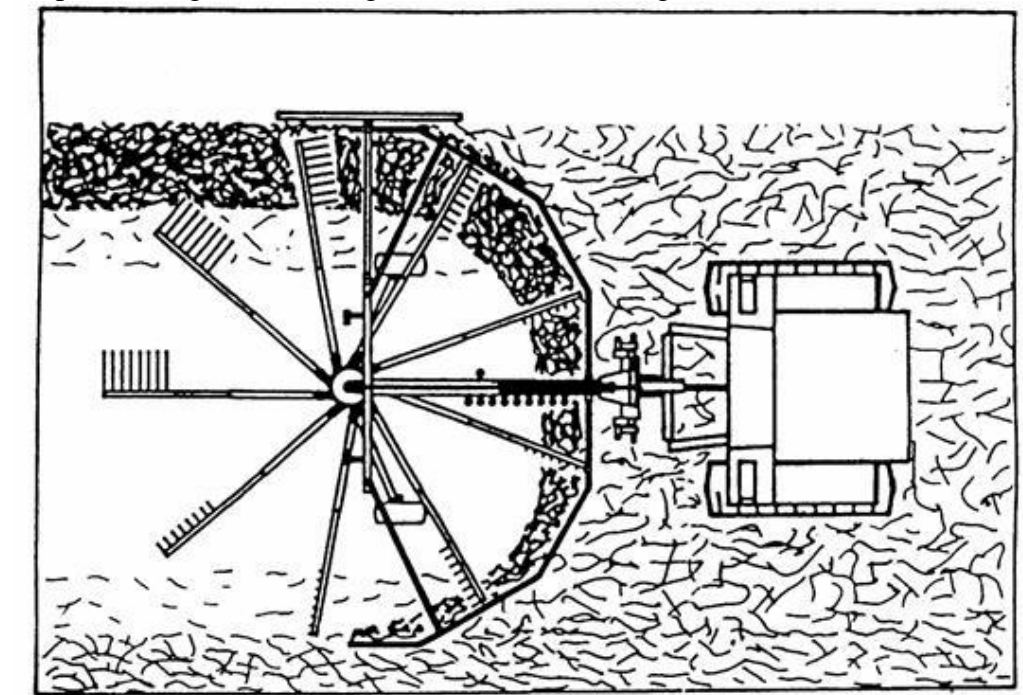

Fig. 18
- insufficient length of three-point linkage central link - causes the hay rake to leave crop at the edges of working width, as shown in figure 18.